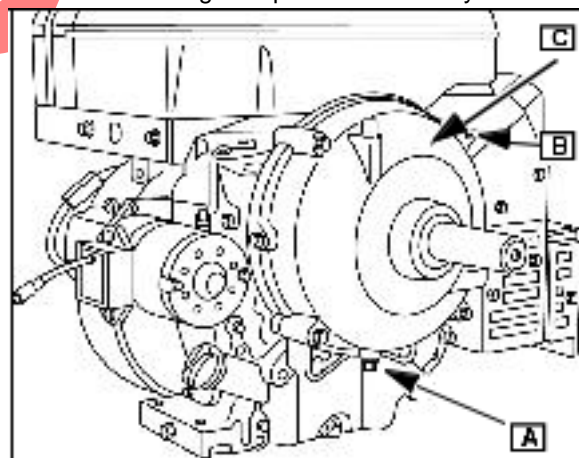

Fig. 22
Remove four cover screws (B) and cover ([C] Fig. 22). Inspect cover for bearing wear and damage. Replace if necessary.